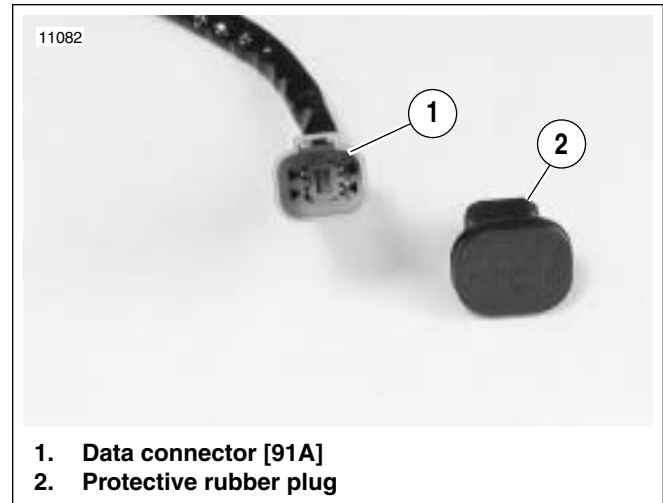

Figure 3-11. Serial Data Connector [91A] (typical)
See Figure 3-11. Using the Scanalyzer requires access to the data connector (1). See below for instructions on reaching the data connector.
3. See Figure 3-11. Remove rubber protective plug (2) from data connector (1). Plug Scanalyzer into connector.